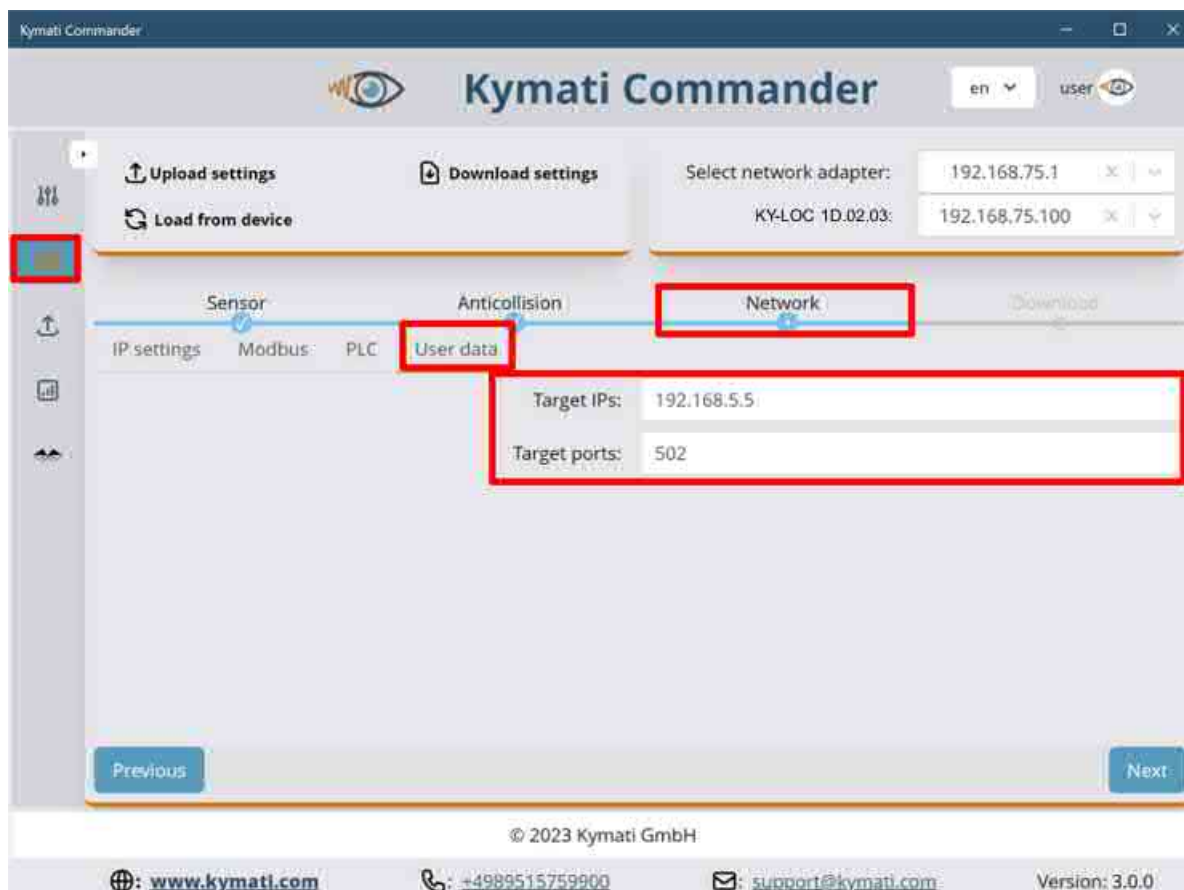

Figure 9.16: Network tab – User data settings (Modbus Channel)
- This remote Modbus server can be configured by the user in the GUI through the "Target output IP" and "Target output port" settings. (As shown on Figure 9.16)